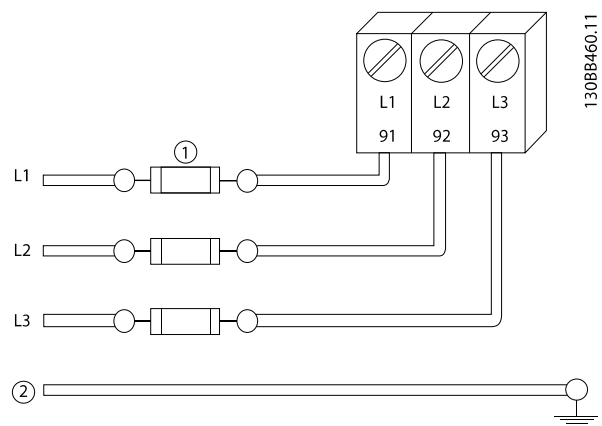

Figure 2.7 Adjustable Frequency Drive Fuses
- All adjustable frequency drives must be provided with short-circuit and overcurrent protection. Input fusing is required to provide this protection, see Figure 2.7. If not factory supplied, fuses must be provided by the installer as part of installation. See maximum fuse ratings in .